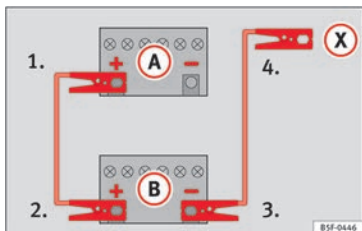

Fig. 63 Diagram of connections for vehicles without Start-Stop system.
2. Connect one end of the *red* jump lead to the positive (+) terminal of the vehicle with the flat battery (A) » » Fig. 63.
3. Connect the other end of the *red* jump lead to the positive terminal (+) in the vehicle providing assistance (B).
4. *For vehicles without Start-Stop system:* connect one end of the *black* jump lead to the negative terminal (-) of the vehicle providing the current (B) » » Fig. 63.